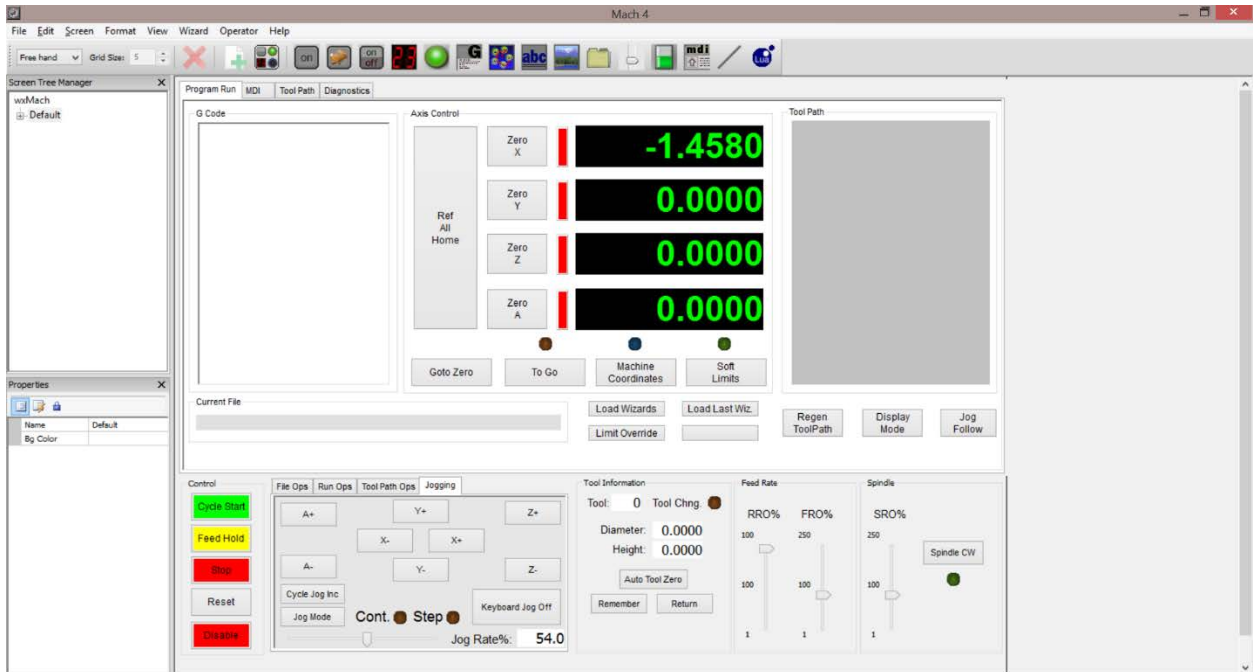

Figure 2-10: Mach4 screen editor
- **Edit Screen:** switches Mach4 to the screen editing mode, see figure 2-10.